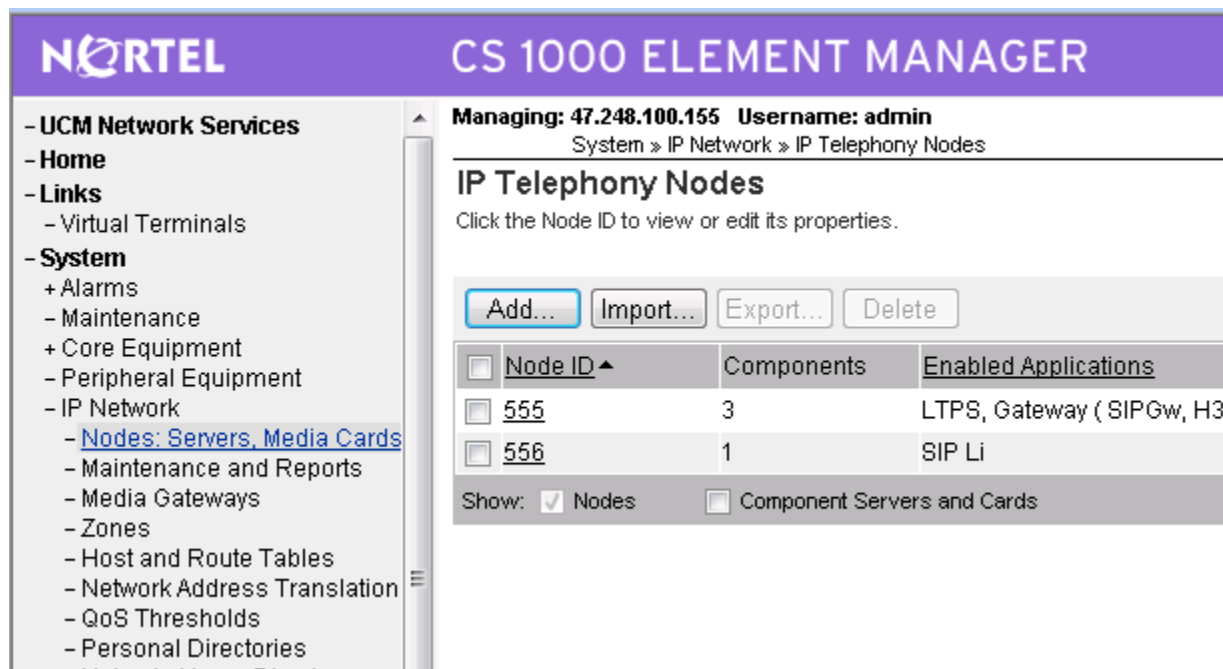

Figure 2 – Add a node.
- After launched CS1000 Element Manager, Click on **IP Network > Nodes: > Servers, Media Cards** and then click on **Add** button (Figure 2).